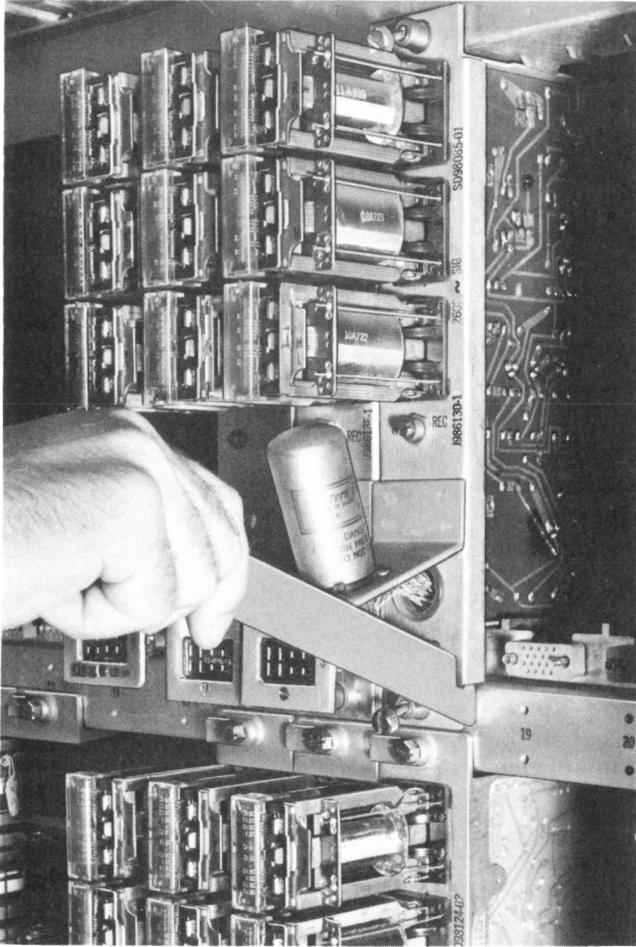

Fig. 1—Method of Removal of Fabricated Chassis
- 3 Using 725A tool as shown in Fig. 1 or 2, remove signaling unit from its in-service position.